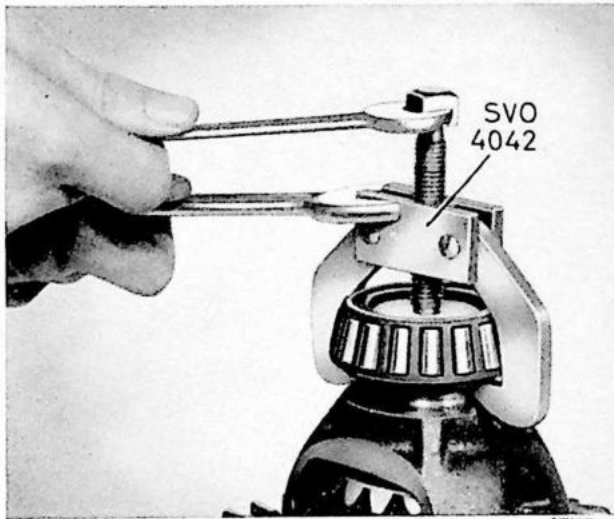

Fig. 27. Removing differential carrier bearing.
3. Pull off the differential carrier bearings (13, 31) with puller SVO 4042, see fig. 27. Preserve the shims (14, 30).